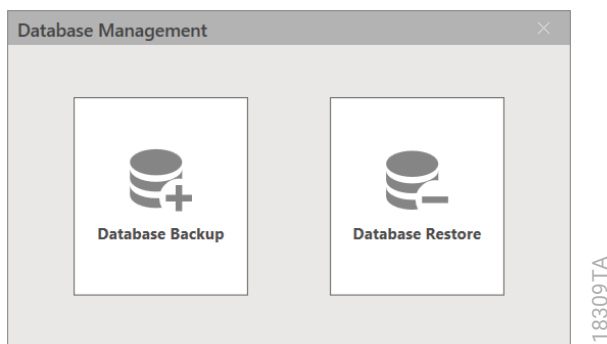

Figure 10. The 'Database Operations' window.
1. To restore the current database to an archived backup copy, log in as the Admin user, and select **Database Management** from the task pane. The 'Database Operations' window appears (Figure 10).